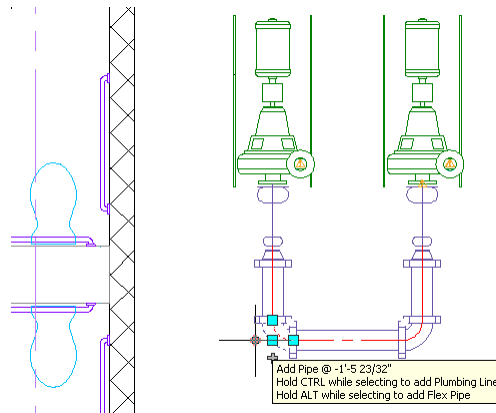

Figure 6.43
26. Select the left 6" elbow. Click the left plus (+) grip to change the elbow into a tee (see Figure 6.43).